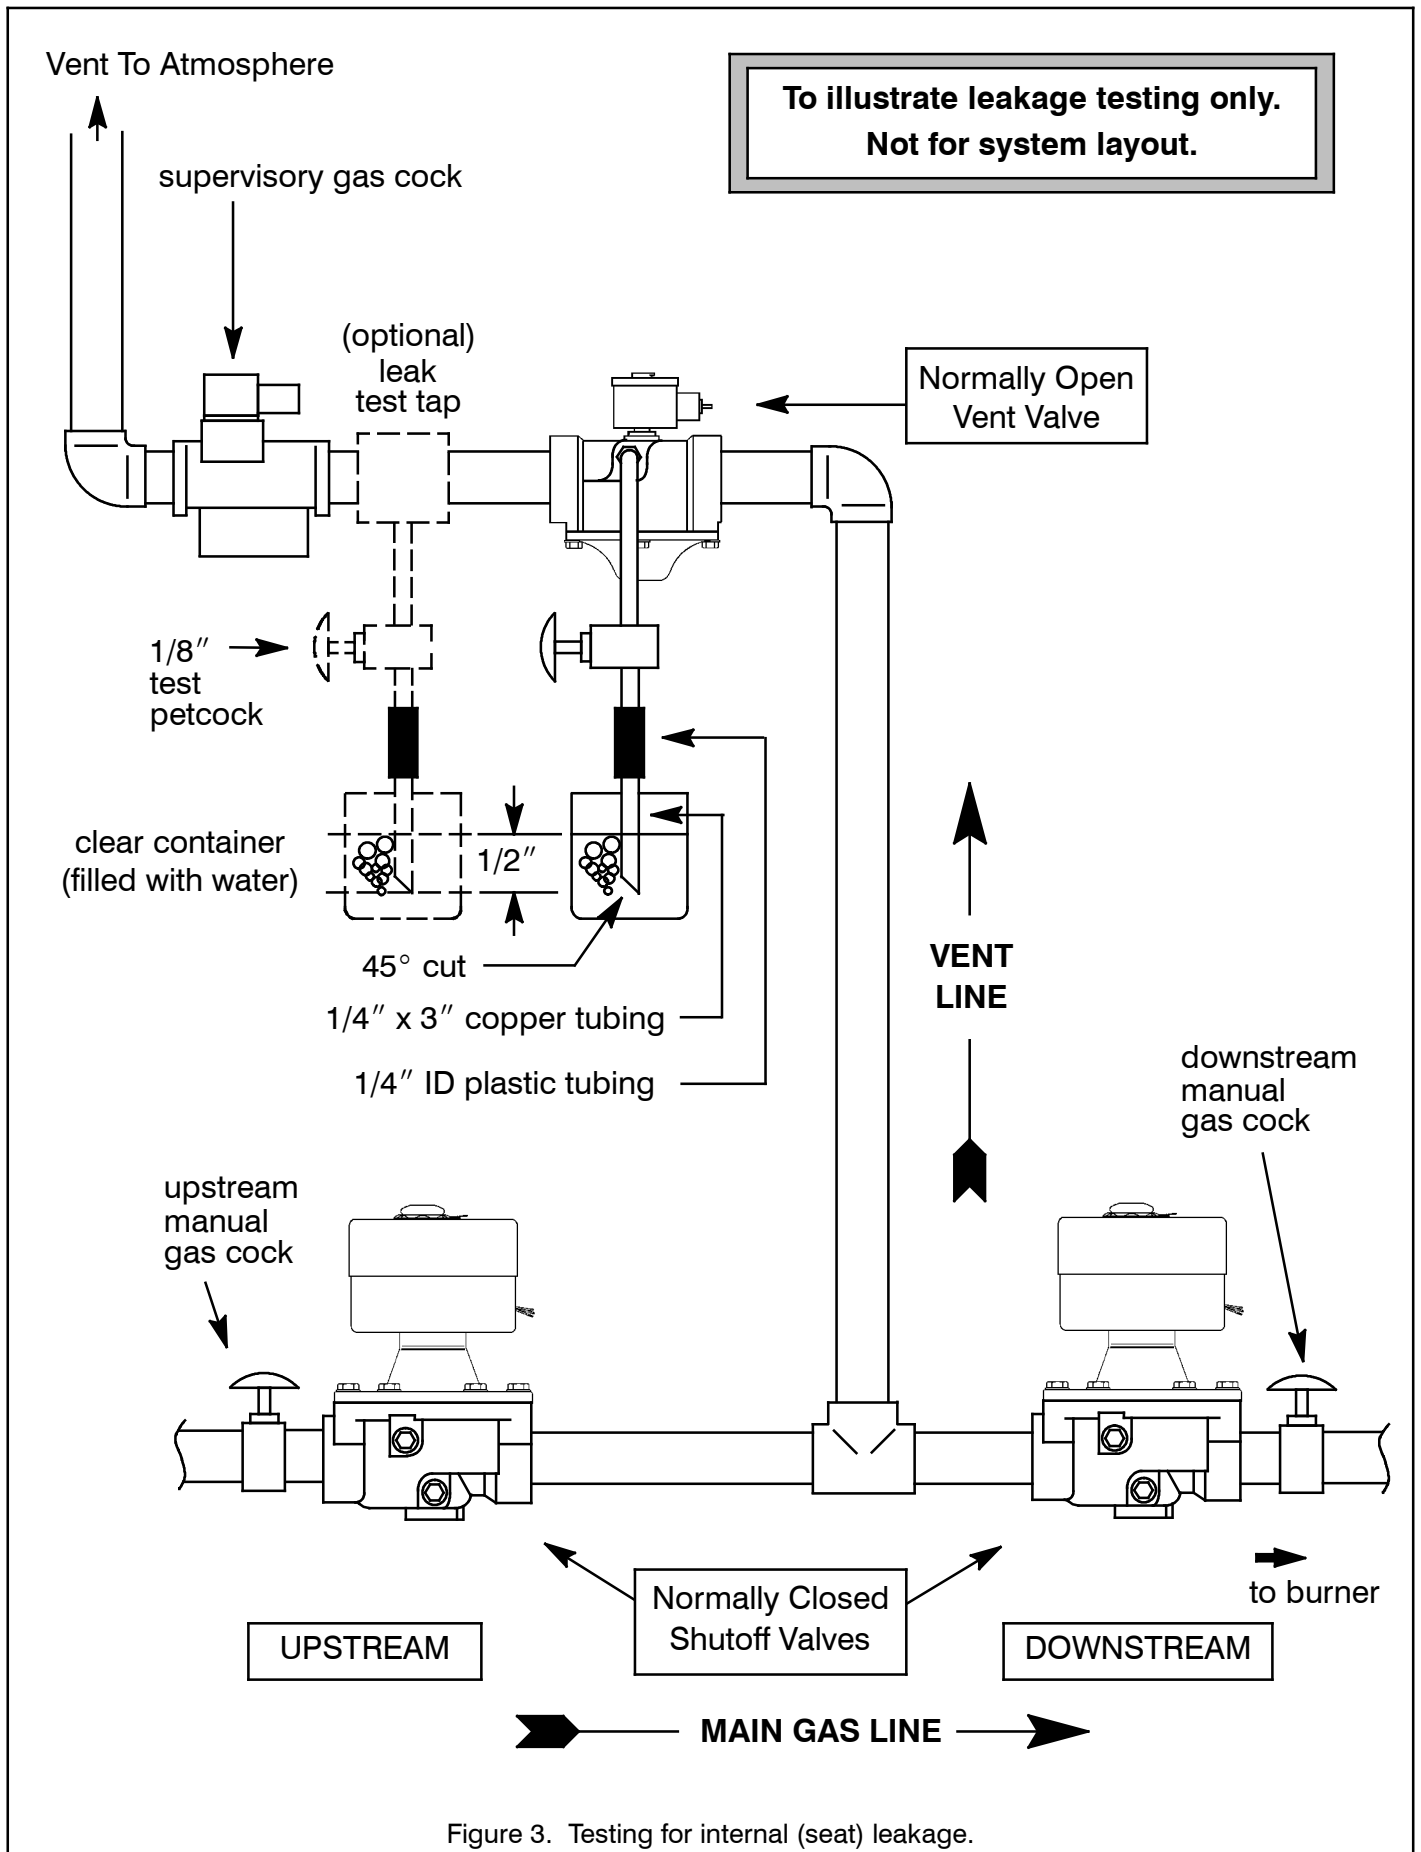

Figure 3. Testing for internal (seat) leakage.
#### Testing for Internal (Seat) Leakage (Refer to Figure 3)
4. Connect leak test equipment with the test petcock in the closed position, see Figure 3.